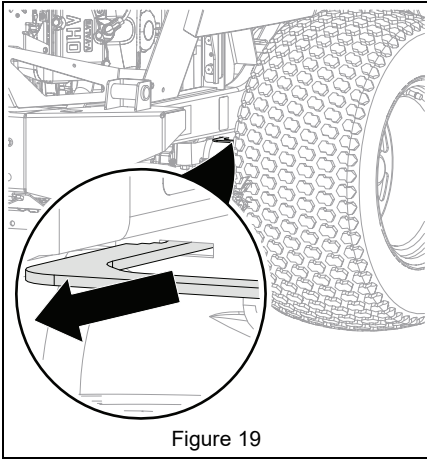

Figure 19
2. Pull both transaxle bypass levers out into bypass position. See Figure 19.